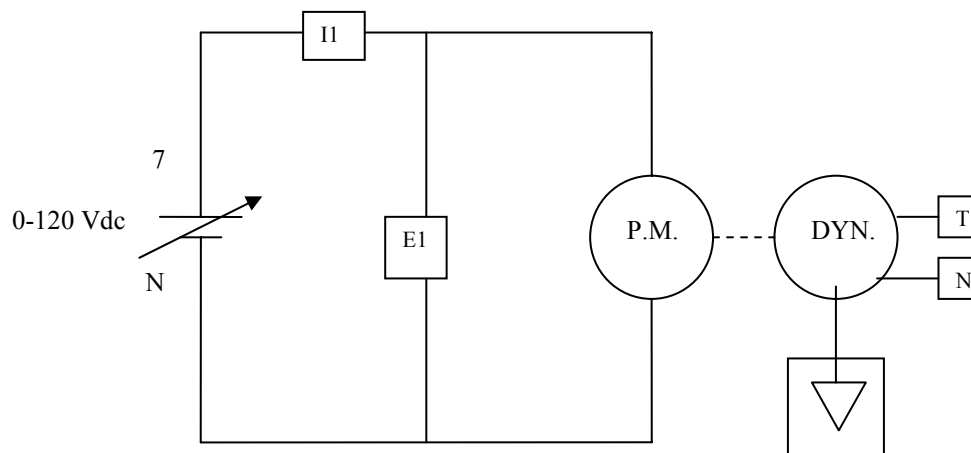

Figure 2: Prime Mover Coupled to the Dynamometer
17. After connecting the timing belt, construct the circuit of Figure 2. Be sure to connect the T, and N meters to the Dynamometer.
- DISPLAY switch.....SPEED (N)
- DISPLAY switch.....TORQUE (T)
21. On the Prime Mover set the DISPLAY switch to TORQUE (T) position. Record the opposition torque (T) indicated on the Prime Mover display.
26. Verify construction of Figure 2, and 24Vdc power to both Prime Mover / Dynamometer modules as well as the DAI module. On the Prime Mover set the controls as follows: